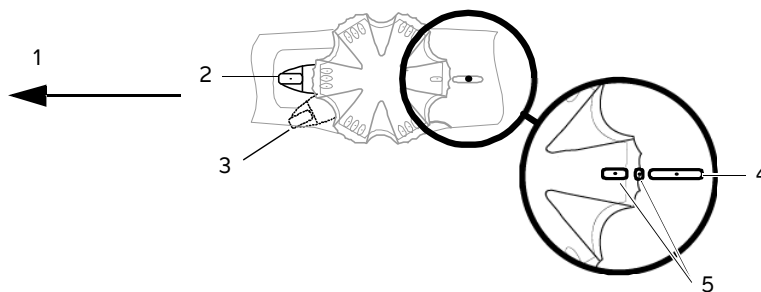

Figure 2-5 Tip deflection brake operation
The lock for anterior/posterior flexion is a handle located under the lower control wheel (see Figure 2-5). There is no lock for left/right deflection.
- ▶ To prevent damage to the patient’s esophagus when inserting or withdrawing the transducer, the control wheel must be in the freely moving, neutral, and unlocked state. See **Figure 2-5** on page 2-8.